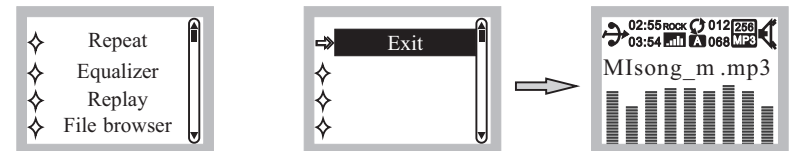

Fig. 16
- (J) Exit: In exit option, press PLAY/PAUSE ⏸ to return to the playback mode, Fig. 16.